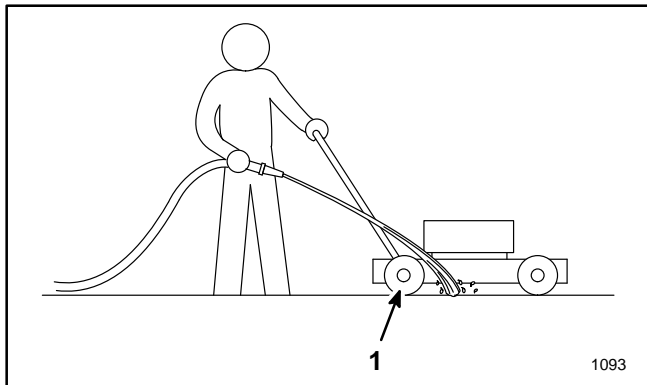

Figure 36
4. Hold the running garden hose at handle level and direct water to flow on ground just in front of right rear tire (Fig. 36). The rotating blade will draw water under the housing and wash out clippings. Let the water run for a few minutes or until you no longer see clippings being washed out from under housing.